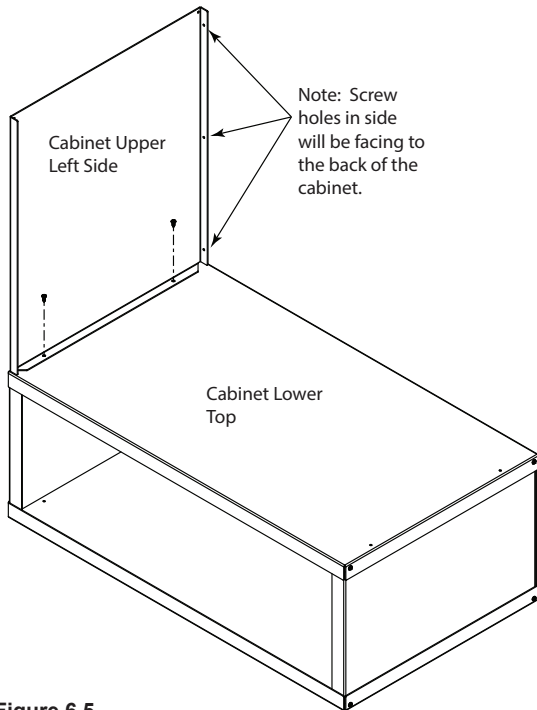

Figure 6.5
- Assemble cabinet upper left side to cabinet lower top using 2 screws. See Figure 6.5.